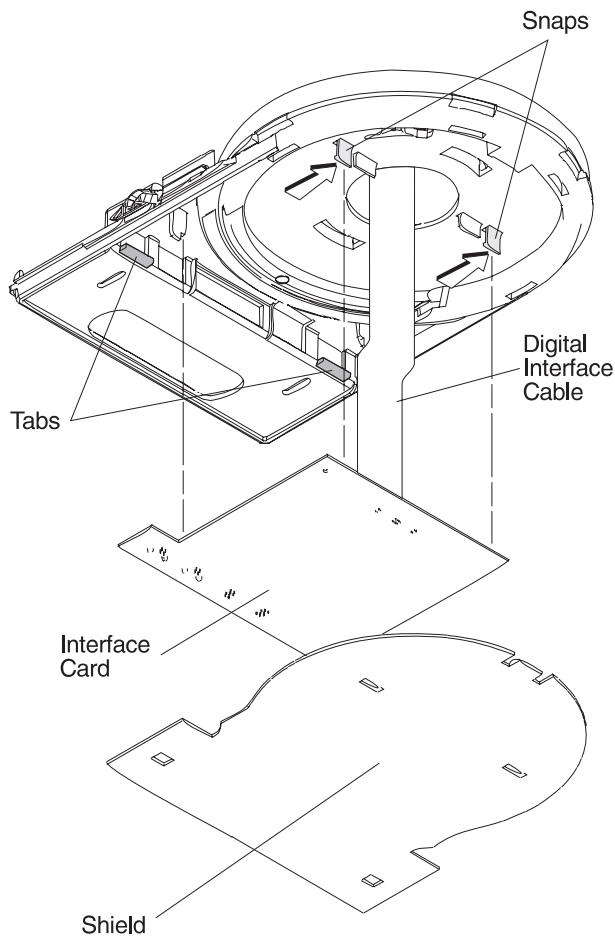

Figure 3-15. Removing the Interface Card
- 3 Press the two snaps as shown in Figure 3-15 and remove the interface card from underneath the touch terminal.